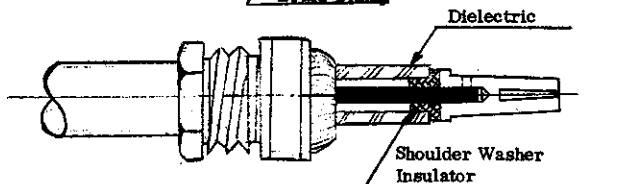

FIG. 3
4. For applications requiring use of RG-62 and 71/U cables, add the insulator bushing as shown in Fig. 3.